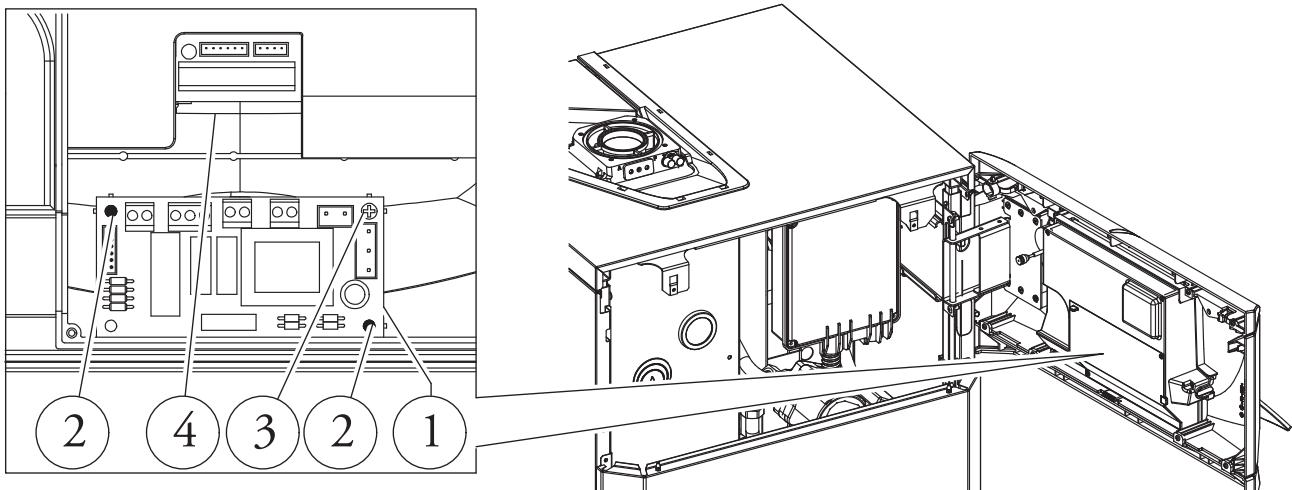

Fig. 2-1
the relay board (1) (see figure 2-1 on the basis of your boiler model).
- Mount the board making the male pin (2) match the hole in the board (1) and fix it using the cross-head screw (3) (see figure 2-1 on the basis of your boiler model).
- Make the electric connections between the relay board (1) and the boiler P.C.B. (4) using the relative wiring composed of two cables supplied with the kit. Connect the external components according to requirements following the wiring diagrams given on the next pages.